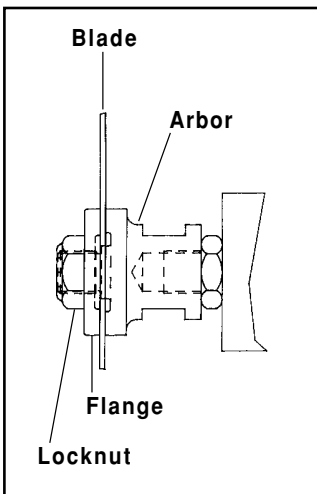

FIG. 2
- a. Standard Arbor - Install the blade on the 5/8 diameter arbor shoulder (Fig. 2). Install the flange with the relieved side toward the blade and screw on the locknut. While holding a wrench (supplied) on the 7/8 arbor flats, tighten the arbor locknut. The blade must seat fully on the arbor shoulder and flush against the face of the arbor.
2. Turn cutter feed knob clockwise. (Fig.2) Lower motor and cutter close to, but not touching the pipe. Motor bracket locking knob should be tight, yet allow the bracket to slide.
- 2.* Knowing the thickness of pipe to be cut, turn the feed knob clockwise, (Fig. 2) until the pointer indicates the desired depth of cutter. Allow at least 1/4" of blade beyond depth of cut.
3. Tighten motor bracket locking knob. (Fig. 2)
4. Tighten blade guard locking knob approximately 1/8" from pipe. (Fig. 2)